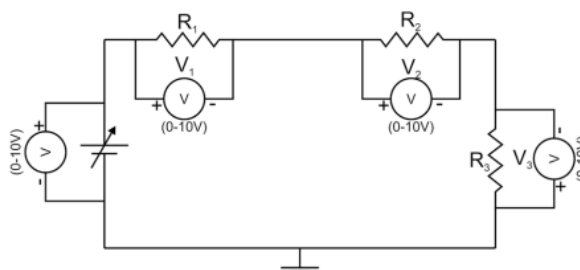

Fig P9.2
6. Make connection as per circuit diagram in Fig P9.2.